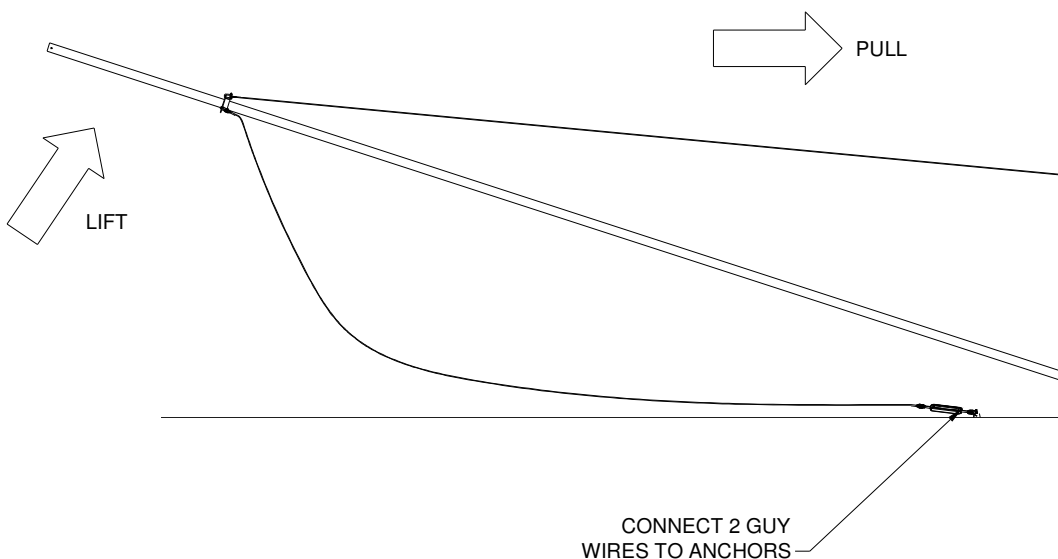

Fig 10: Connect two guy wires and hoist the tower
12. **Connect two of the guy wires to the guy wire anchors and hoist the tower** - Select two of the guy wires, leaving the single guy wire that works in line with the tilt-up direction. Using the 'D' shackles, attach these two guy wires to a corresponding guy anchor. The third guy wire is now used to hoist the tower. Two people may be required. One person should pull the guy wire, whilst the other lifts the tower from the other side. Ensure that safety is your first priority during the hoisting operation. Use the 'D' shackle to attach the third guy wire to the guy anchor - see fig 10.